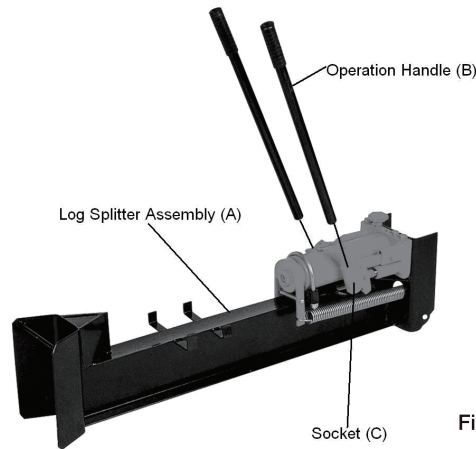

Fig. 1
To complete assembly, insert one OPERATION HANDLE (B) into each of the SOCKET (C) on the Ram. See Fig. 1. Your Hydraulic Log Splitter is ready for use.